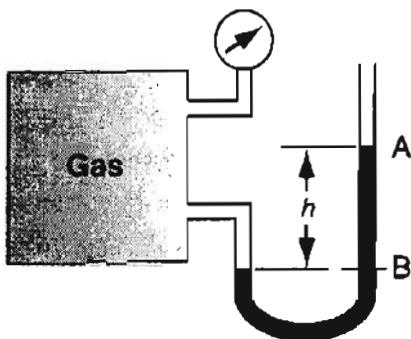

Figure SAT5.3P2
2. A Bourdon gauge and a mercury manometer are connected to a tank of gas, as shown in Figure SAT5.3P2. If the reading on the pressure gauge is 85 kPa, what is *h* in centimeters of Hg?